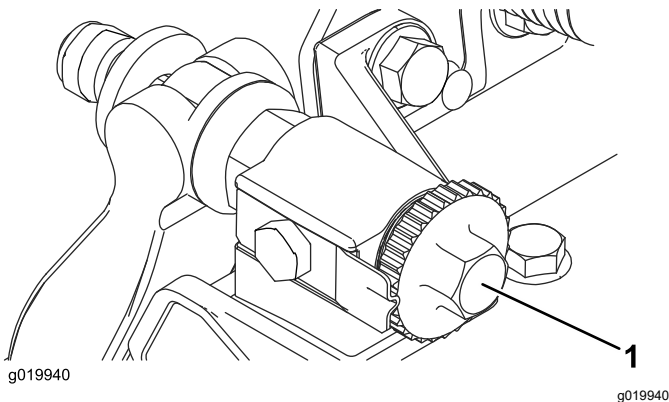

Figure 7
- A. Turn the bedbar adjusting screws clockwise (Figure 7), 1 click at a time, until you feel and hear light contact.